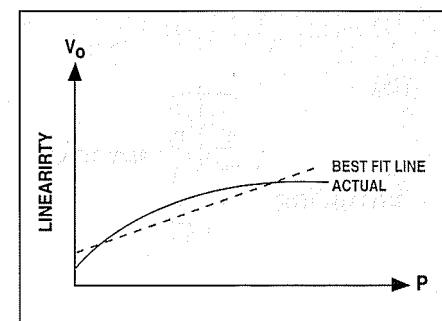

Figure 12. The least squares method can be used to measure a pressure sensor's linearity.
**Linearity** refers to deviations from the ideal straight line described by Equation (13). One way to measure linearity is to use the least squares method, which gives a best fit straight line (see Figure 12).